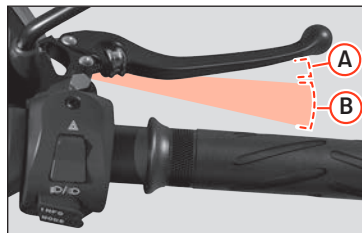

Fig. 19 Brake lever
- During the first part of the front brake lever's travel (right hand side) »» Fig. 19 (A), the regenerative brake operates. This system brakes the rear wheel electronically and regenerates energy in the battery.
- If you continue pressing the brake lever »» Fig. 19 (B) the mechanical brake on the front wheel will also be activated. Greater pressure will increase the power of the mechanical brake.